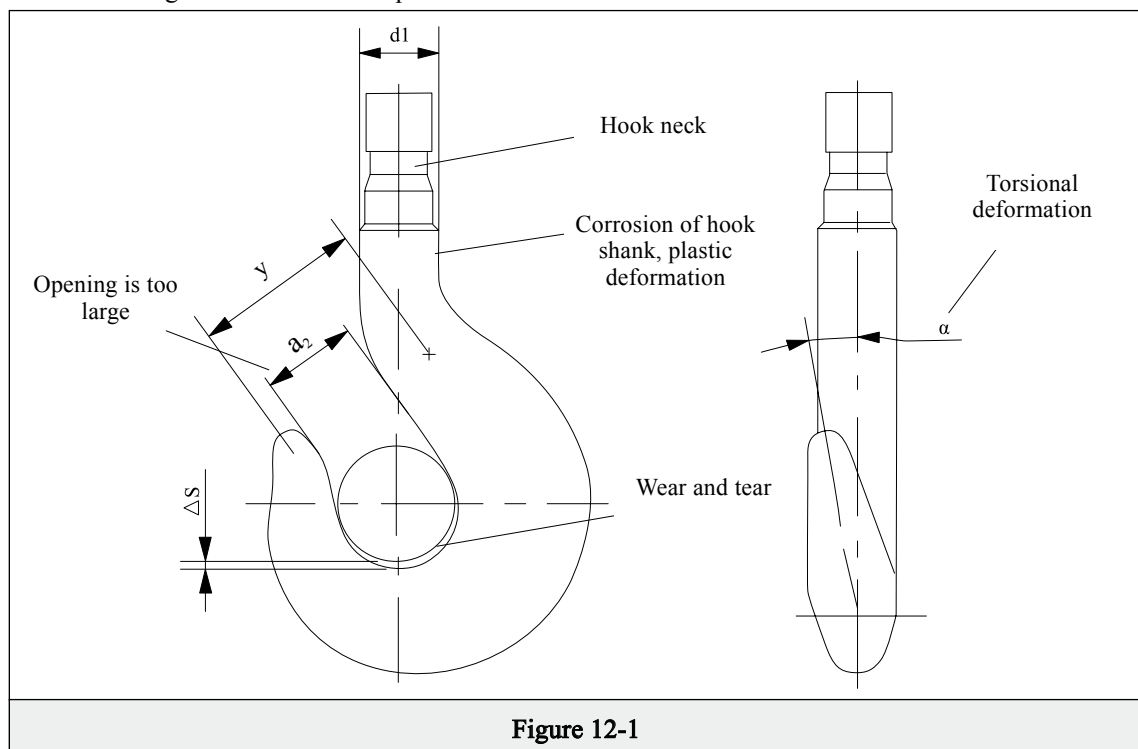

Figure 12-1
1)The hook should be checked the measuring length y value (as shown in figure 12-1), the hook should be scrapped when the value is more than 10% of the size before use.
2)Check hook the torsional deformation, the hook should be scrapped when the torsion angle α (as shown in figure 12-1) is more than 10° .
Hook wear ΔS (as shown in figure 12-1) shall not exceed 5% of the basic size, and otherwise the hook should be scrapped.
1)Corrosion size of the hook shank diameter d_1 (as shown in figure 12-1) should not be more than 5% of the basic size, otherwise the hook should be scrapped.
- c. The other hooks should be checked the values of measuring length y (as shown in Figure 12-1), when the values exceed 10% of the nominal dimensions before use, the hooks should be scrapped: